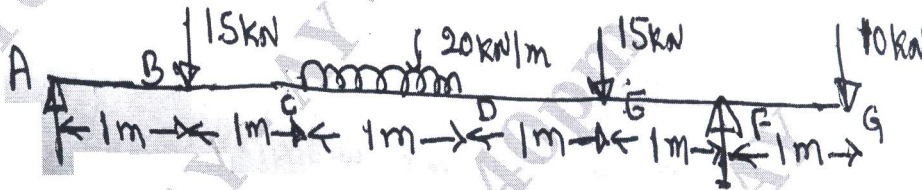

Fig Q6(b)
- b. Draw the shear force and bending moment diagram in Fig Q6(b) and mark salient points. Find the point of contra flexure and maximum bending moment.